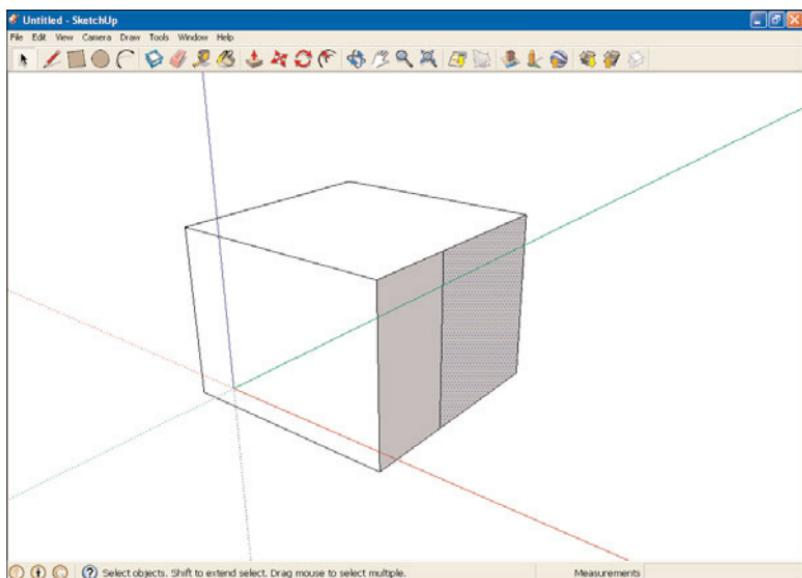

FIGURE 8.4 A cube with a line.
5. Draw a vertical line on one edge of the cube, as shown in Figure 8.4. Note that when you're drawing the line, it will turn cyan until it's parallel to the vertical edges of the cube. This is a useful guide if you want to draw a vertical line.